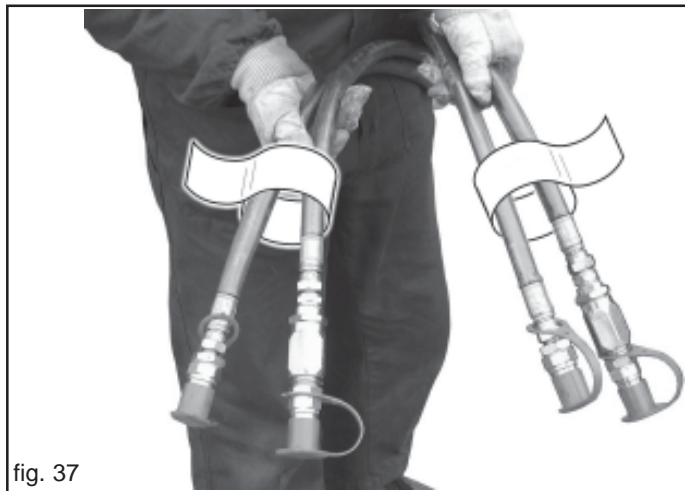

fig. 37
- 4) The hydraulic pipes must be connected correctly to the tractor distributors following the instructions on each pipe (Fig. 37).